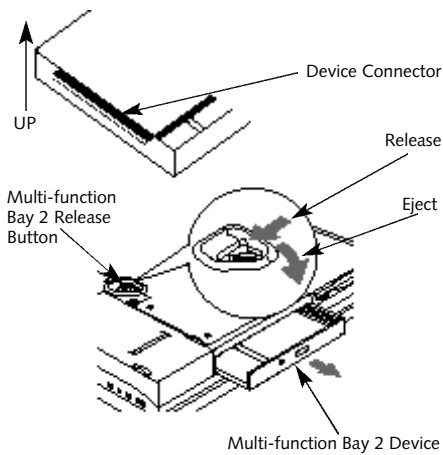

Figure 4-3 Removing and Installing a Device in Multi-function Bay 2
4. **Orient the device to be installed with the connector toward the body of your notebook and closer to the up side of the device. (Figure 4-3.)**
5. **Align the grooves on the sides of the device with the tracks in the sides of the bay. (Figure 4-3.)**